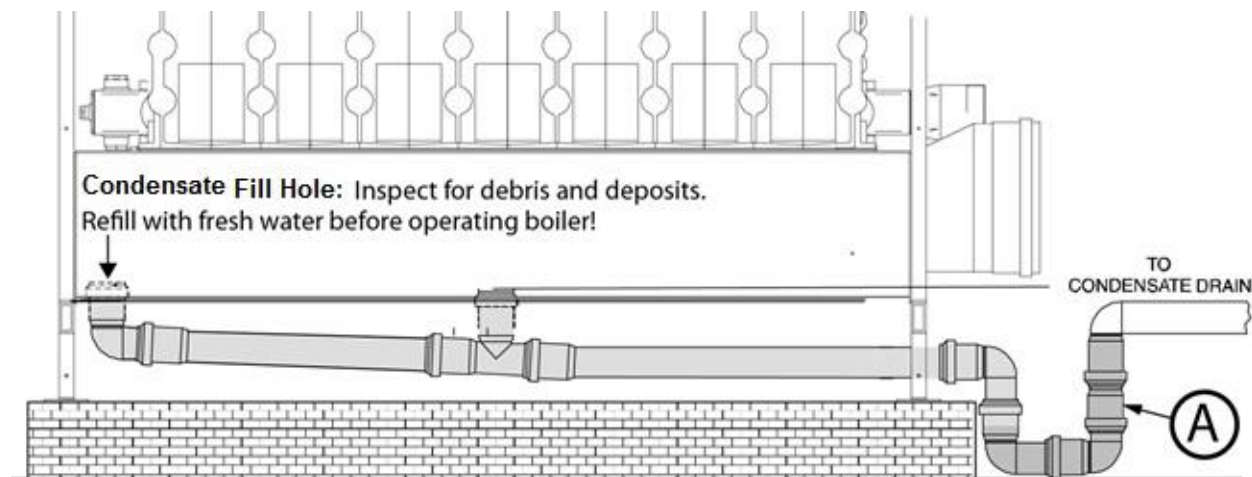

Figure 8-1: Condensate Drain Location
1. Refer to Figure 8-1, disconnect the pipe at location (A).